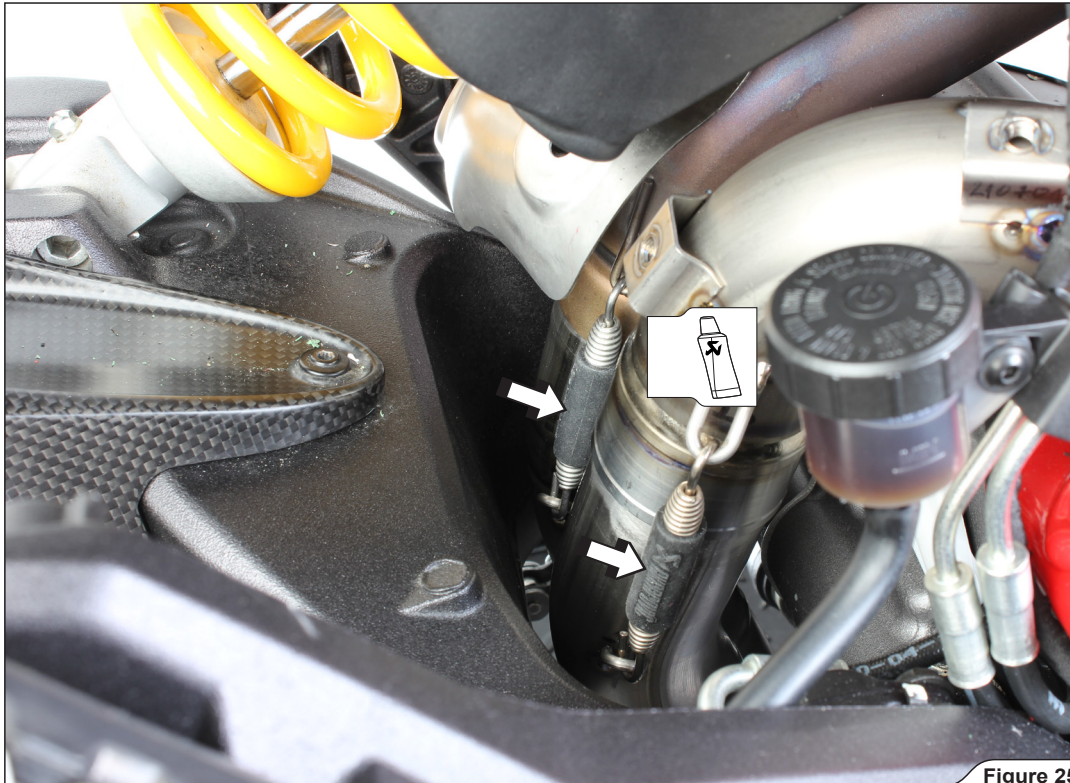

Figure 25
- Slide the collector onto the headers and attach the springs (Figure 25).